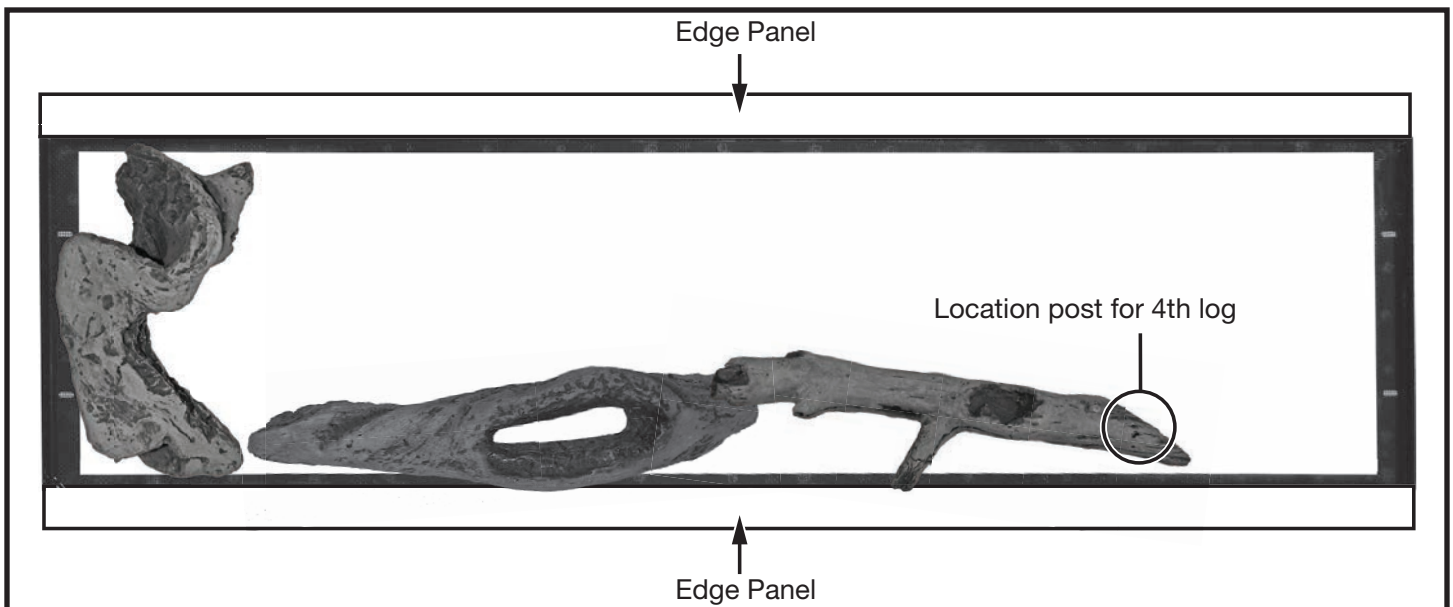

Figure 40: Log 3 placement.
3. The 3rd log has a socket on the bottom of one end which will fit onto the location post of the 2nd log. Once the socket and location post have been mated, move the opposite end of the 3rd log toward the edge panel so that its' middle branch is resting on the edge panel (Figure 40).